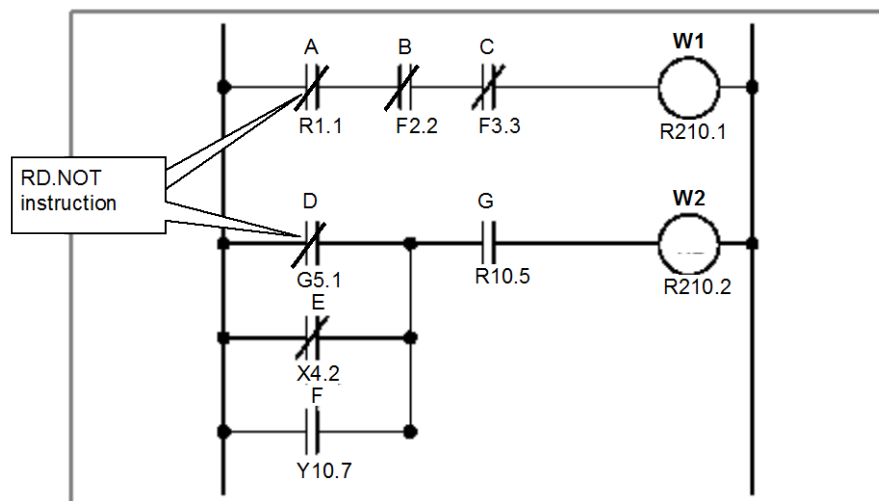

Fig. 4.1.3
- (1) Use this instruction to start coding from contact B (—|/|—). For examples of how the RD.NOT instruction is used, see the ladder diagram shown in Fig. 4.1.3 and the input example in the mnemonic format given in Table 4.1.3.
- (2) The instruction reads and reverses the logical status of the signal at the specified address and sets it in the ST0 bit.
- (3) The signal (contact) to be read by the RD.NOT instruction may be any contact B that is input as a logical condition of a coil.